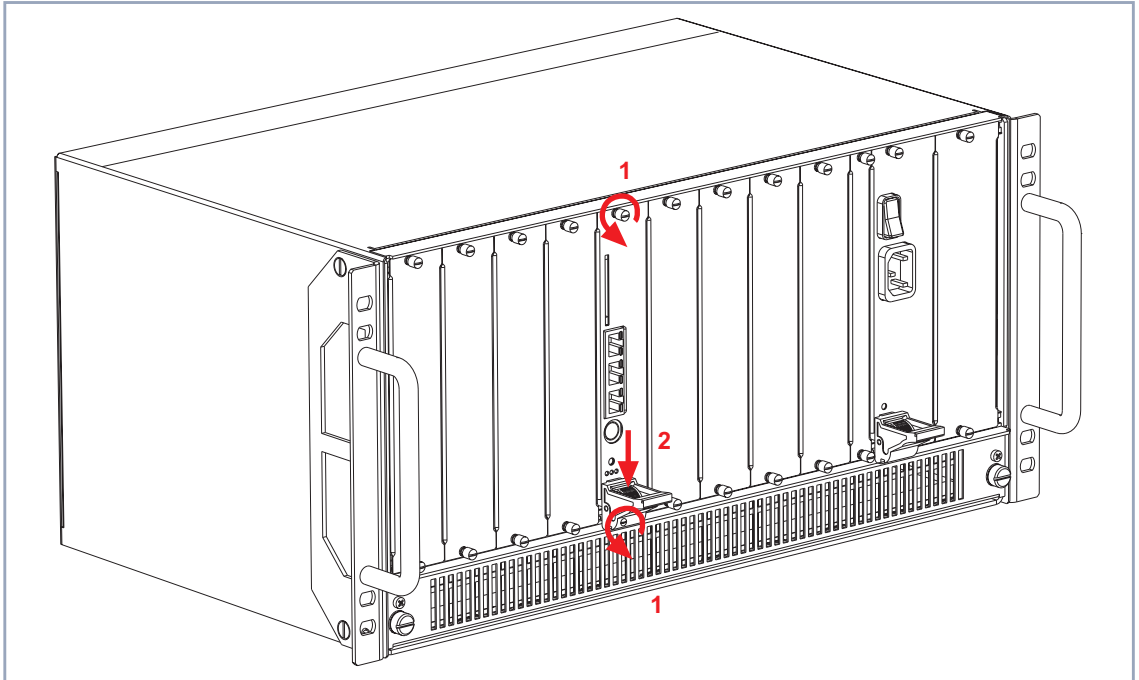

Figure 4-6: Removing an expansion card, step 1
- Loosen the screws of the front-panel, see figure 4-6, page 41, arrows no. 1.
- Press the switch on the injector/ejector handle down in order to release the connection linked to the cross section of the case front, see figure 4-6, page 41, arrow no. 2.